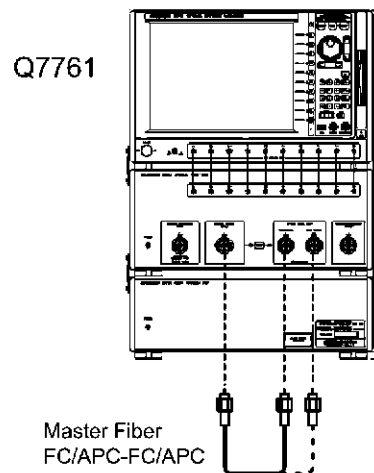

Figure 2-17 Connection-1 for Polarization Mode Dispersion Measurement Accuracy Test
1. Connect equipment as shown in Figure 2-17.